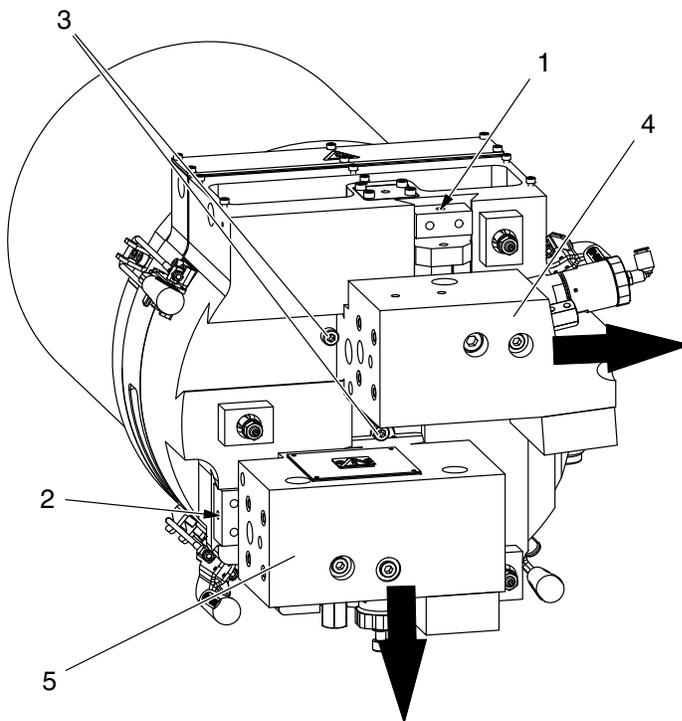

Fig. 5-7 Tank from below
4. Release the hexagonal screw (1 or 2, Fig. 5-7). This releases the safety valve plate (4 or 5, Fig. 5-7).
1. Slide the safety valve plate all the way back (Screw head: 3, Fig. 5-7) and secure with a hexagonal screw (1 or 2, Fig. 5-7). Torque $M = 13 \text{ Nm}$.